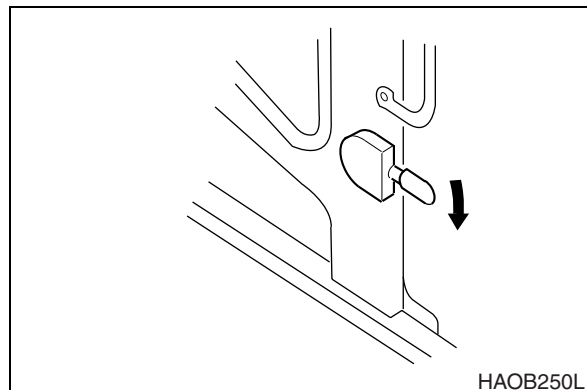

Figure 98
- To release door from side of cab, push the latch lever (Figure 98) down. The latch lever is to the left of the operator's seat.